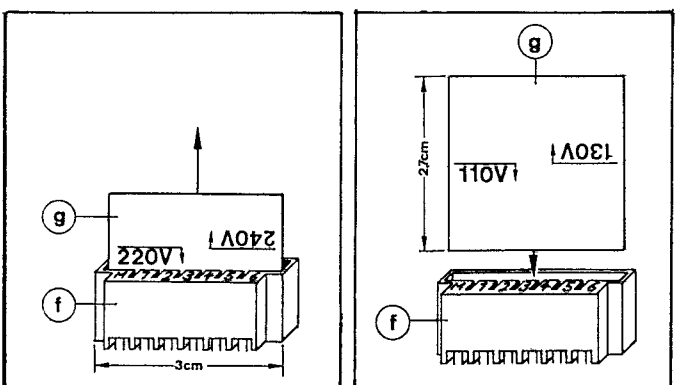

Fig. 8.4 ▼
- Position the p.c. board ⑥ so that the imprint of the intended mains voltage, e.g. 110 V a.c., appears above the '1' on the plug-in socket ⑦ (bottom left-hand corner) (Fig. 8.4).
- Insert p.c. board ⑥ and reassemble the casing.